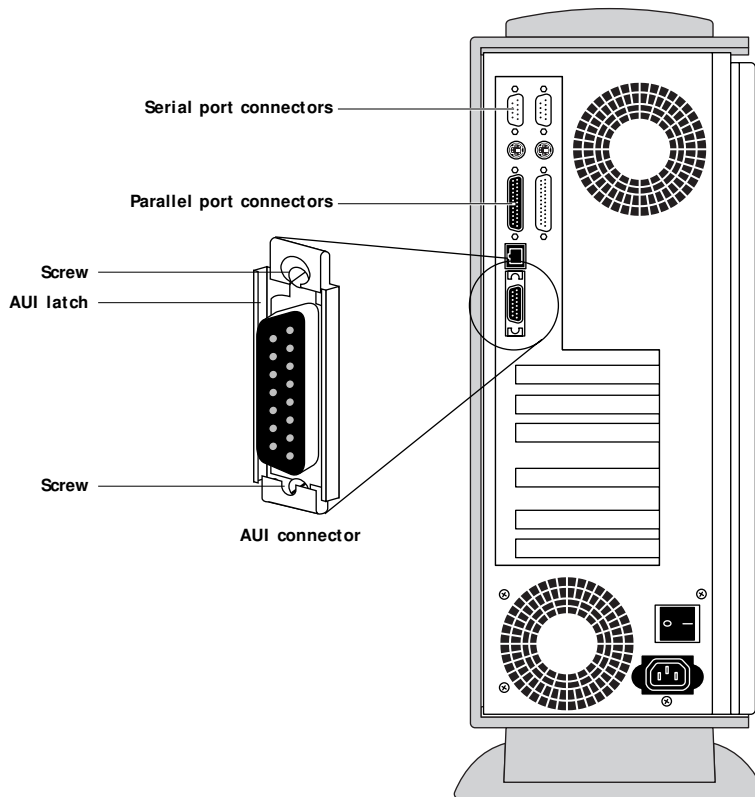

FIGURE 4-19 Motherboard back panel mounting hardware
2. Remove the two screws and the latch on the AUI connector. Note the orientation of the latch so it can be replaced correctly later (see Figure 4-19).
Make sure the latch is oriented as shown in Figure 4-19 on page 4-25. Push the latch up to secure the bottom screw.